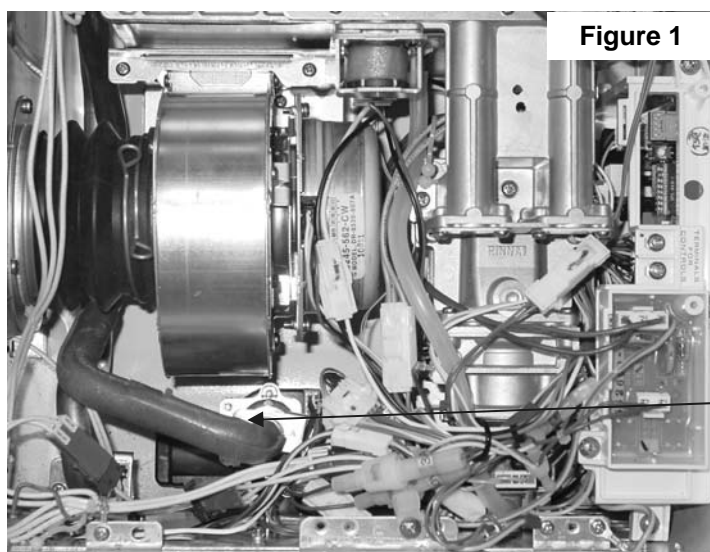

Figure 1
5. Remove 1 screw and bracket at the water flow assembly. The bracket can be left on the water line. Pull out the water line. (Figure 1)